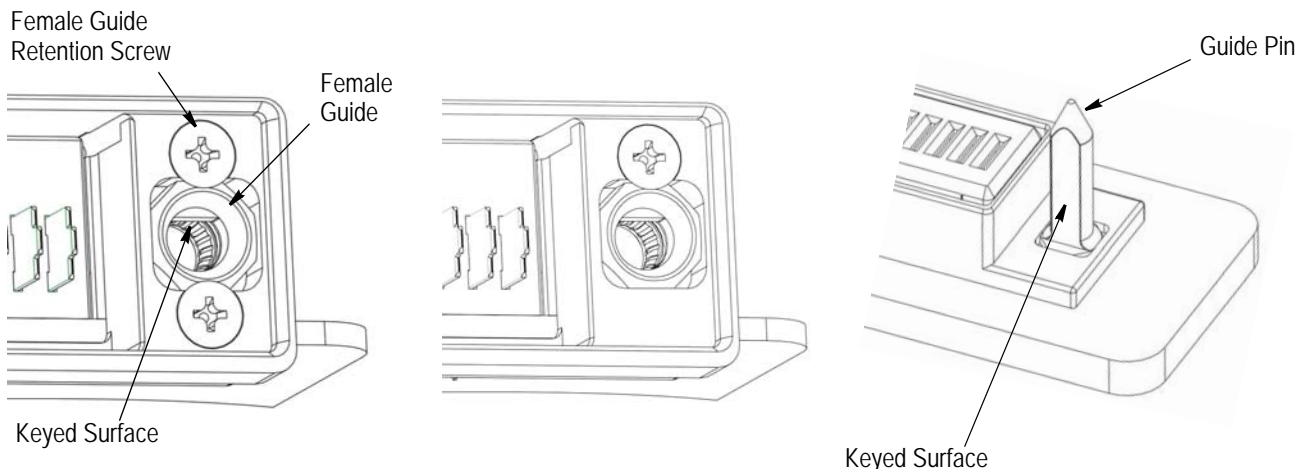
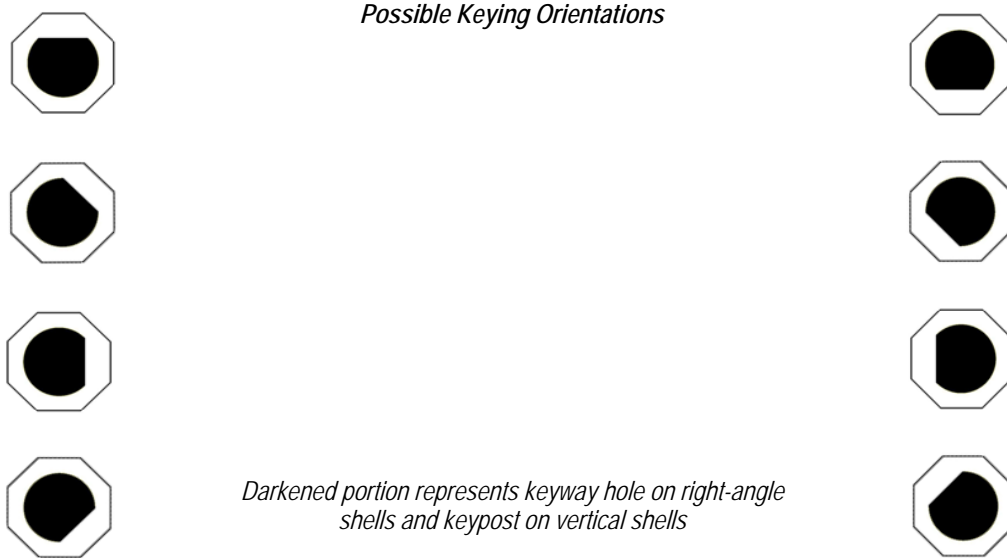

Figure 4
Figure 5
NOTE *Make sure that the keyed surface (inside the keying guide) will match the keyed surface of the keying guide pin (installed onto backplane). See Figure 4.*
Female guides, female guide retention screws, and guide pins are sold separately. See Figure 4. Keying location and position is to be determined by the customer. Figure 5 shows possible keying orientations allowing up to 64 keying positions.
- Added drawing to Figure 4